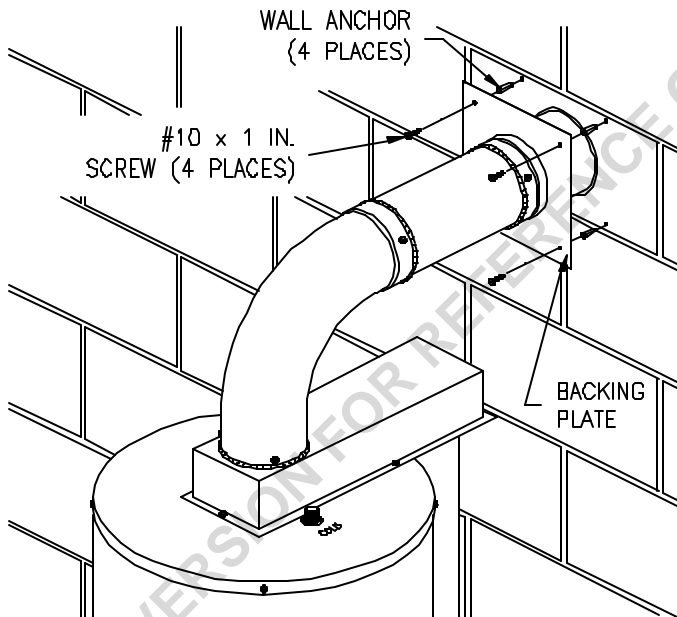

Figure 15
12. Mark the mounting screw hole locations for the backing plate. Rotate the backing plate in order to gain access to the markings. With a 3/16 inch diameter drill bit (not supplied), drill holes for the supplied wall anchors. Install the wall anchors and secure the backing plate to the wall with four (4) #10 x 1 inch screws (supplied) (See Figure 15). Note: Certain construction of walls may require the use of a different type of anchoring means than supplied.